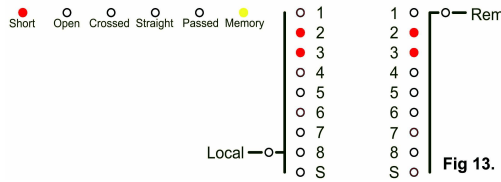

Fig 13.
d) A short between two adjacent pins which have connections at both ends of the cable (Fig13).